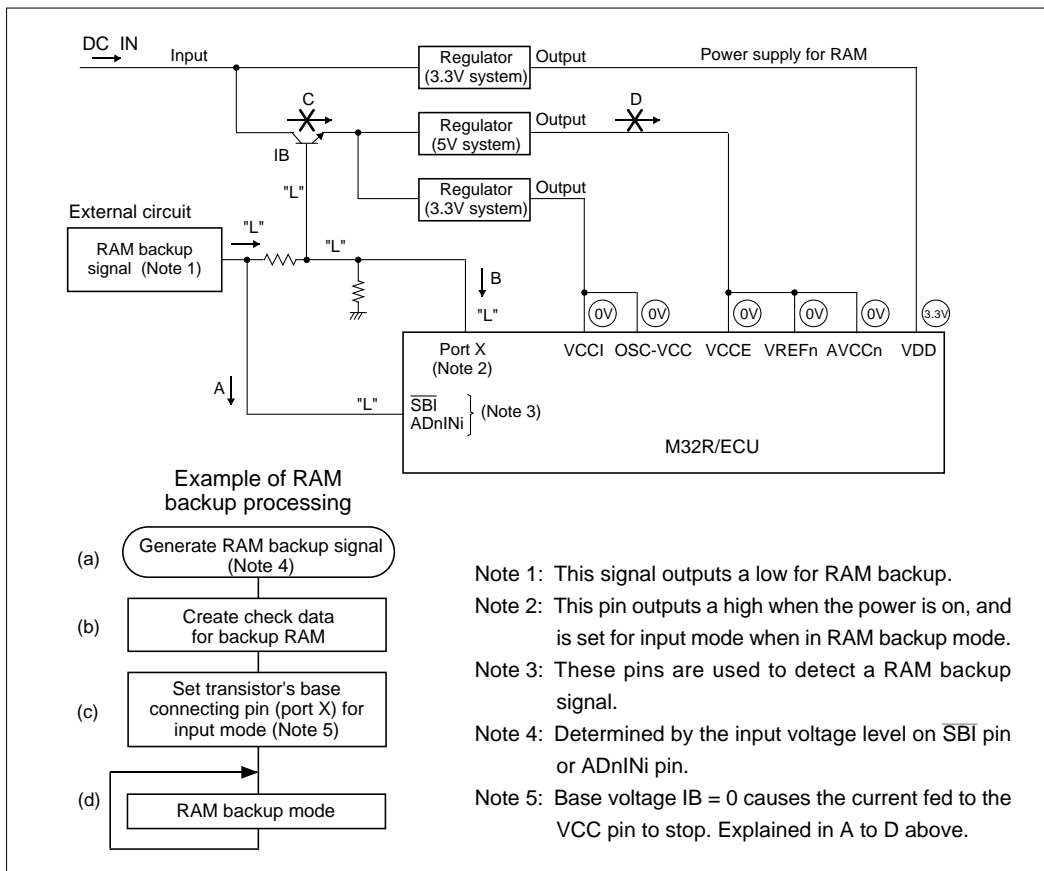
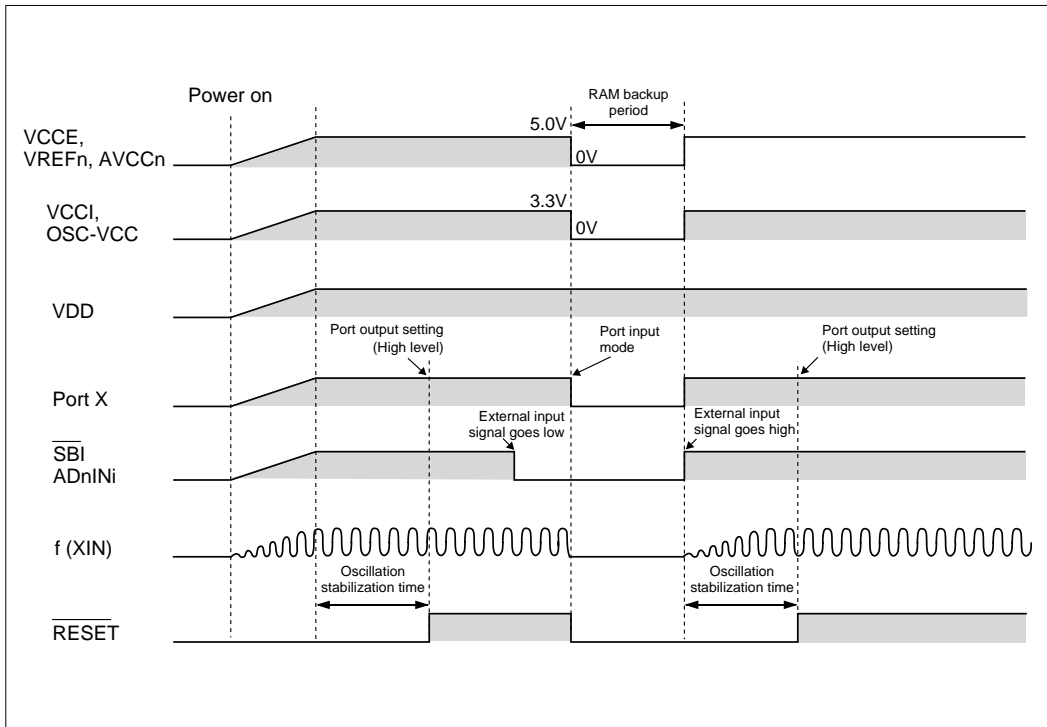

Figure 17.3.3 RAM Backup State for Low-Power Operation
Figure 17.3.4 Example of RAM Backup Sequence for Low-Power Operation
Figure 17.3.3 shows the RAM backup state of the M32R/ECU. Figure 17.3.4 shows a RAM backup sequence. When the external circuit outputs a low, input on the $\overline{\text{SBI}}$ pin or ADnINi pin goes low. A low on these input pins generates a RAM backup signal (A and (a) in Figure 17.3.3). To enable RAM backup mode, make the following settings.
- (1) Create check data to verify after returning from RAM backup to normal mode whether the RAM data has been retained normally ((b) in Figure 17.3.3).
- (2) To materialize low-power operation, set all programmable input/output pins except port X for input mode (or for output mode, with pins outputting a low) ((c) in Figure 17.3.3).
- (3) Set port X for input mode (B and (d) in Figure 17.3.3). This causes the transistor's base voltage, IB, to go low, so that no current flows from the power supply to the VCC pin via the transistor (C in Figure 17.3.3). Consequently, the power to the VCC pin is shut off (D in Figure 17.3.3).
Due to settings in (1) to (3), the voltage applied to the VDD pin becomes $3.3\text{ V} \pm 10\%$ and voltages applied to all other pins drop to 0 V , thus placing the M32R/ECU in RAM backup mode ((d) in Figure 17.3.3).